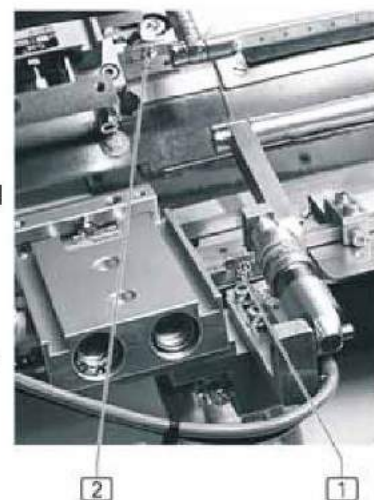

fig. 18
- 4 **fig. 18:** If necessary, adjust the pressure with the adjusting screws **1** and **2**. The pressure is set separately for each surface. The adjustment screw is an Allen screw fixed with a counter nut. By turning anti-clockwise the pressure in the front area of the clamp is increased.